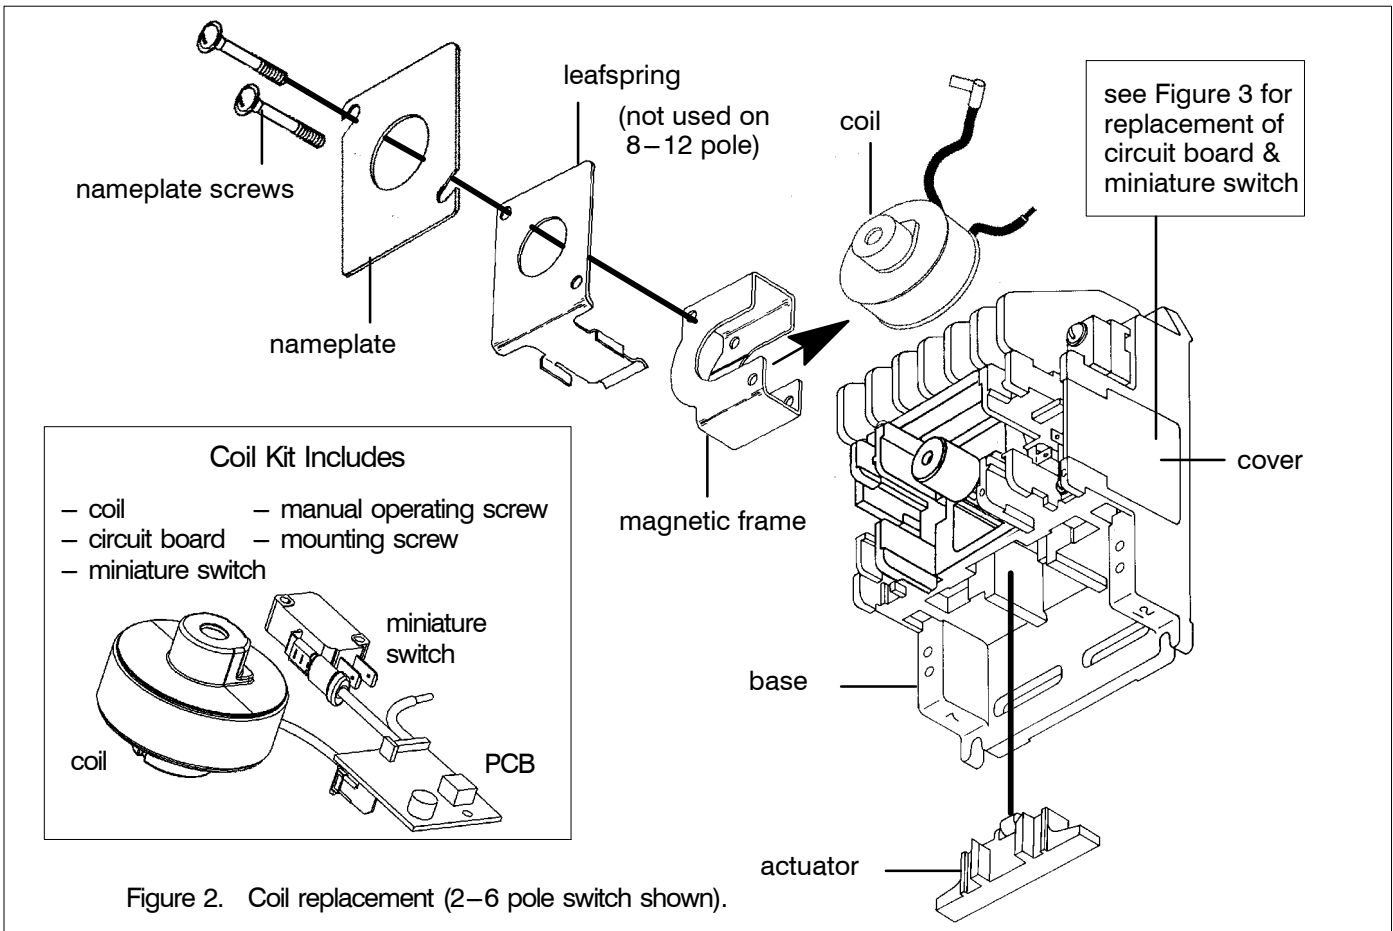

Figure 2. Coil replacement (2-6 pole switch shown).
The coil assembly is mounted in the center of the switch base. The coil control circuit board and miniature switch are on the right side behind a cover. See Figures 2 and 3.
4. Remove the coil. See Figure 2. Use a screwdriver (counterclockwise) to remove the two screws in the magnet frame. Then pull the coil assembly, leaf spring*, and nameplate straight out. Slide the coil out of the right side of the magnetic frame. On 2 — 6 pole switches the actuator will be loose and may drop out of the lower switch cavity.
1. Install the new coil into the magnetic frame. Figure 2. Position the magnetic frame with the seam facing the base. Position the new coil with small hole outward and slide it into the right side of the magnetic frame.
2. Install the coil assembly. See Figure 2. Place the coil assembly onto base (cam/core fits into the coil). Be sure the magnetic frame is flat against the base. On 2 — 6 pole switches reinstall and hold the lower actuator while reinstalling the leafspring and onto the magnetic frame. Then reinsert the two screws through the leaf spring (if present) and magnet frame, and start them clockwise but do not tighten them yet. Put the nameplate against the leaf spring (if present) or magnetic frame and rotate it in place, then tighten the screws evenly to 10 in-lbs.